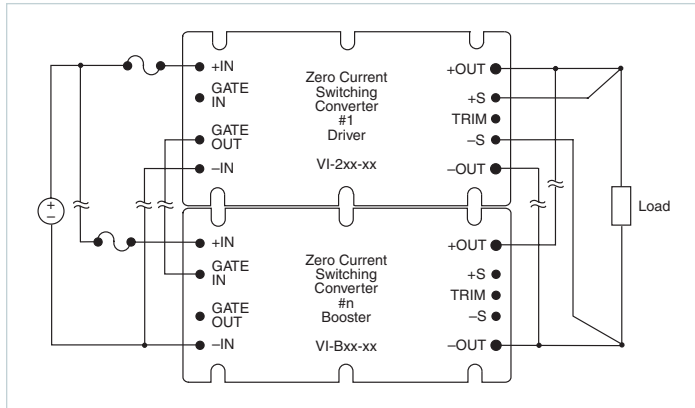

Figure 7.5 — Parallel boost. U.S. Patent #4,648,020; other patents pending
**Parallel Boost:** (Figure 7.5) U.S. Patent #4,648,020 – other patents pending. To retain accurate power sharing between a Driver and (n) number of Boosters, provide adequate input and output power bussing. This applies to VI-/MI-200 and MegaMod / MI-MegaMod Family modules. See Module Dos and Don'ts for recommended external components. (Section 3)